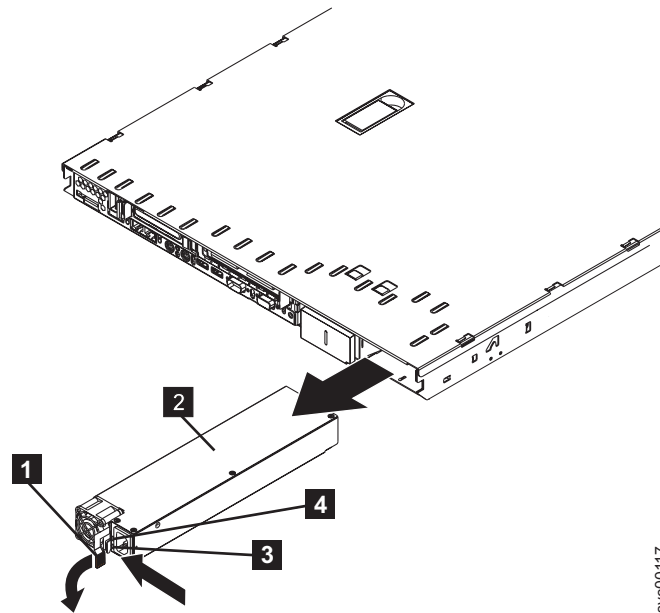

Figure 182. Removing the SAN Volume Controller 2145-8F2 power supply
4. From the rear of the node, as shown in Figure 182, push the orange release lever to the left and then push down on it to release the power-supply assembly. This will move the power supply back, slightly, for easy removal.